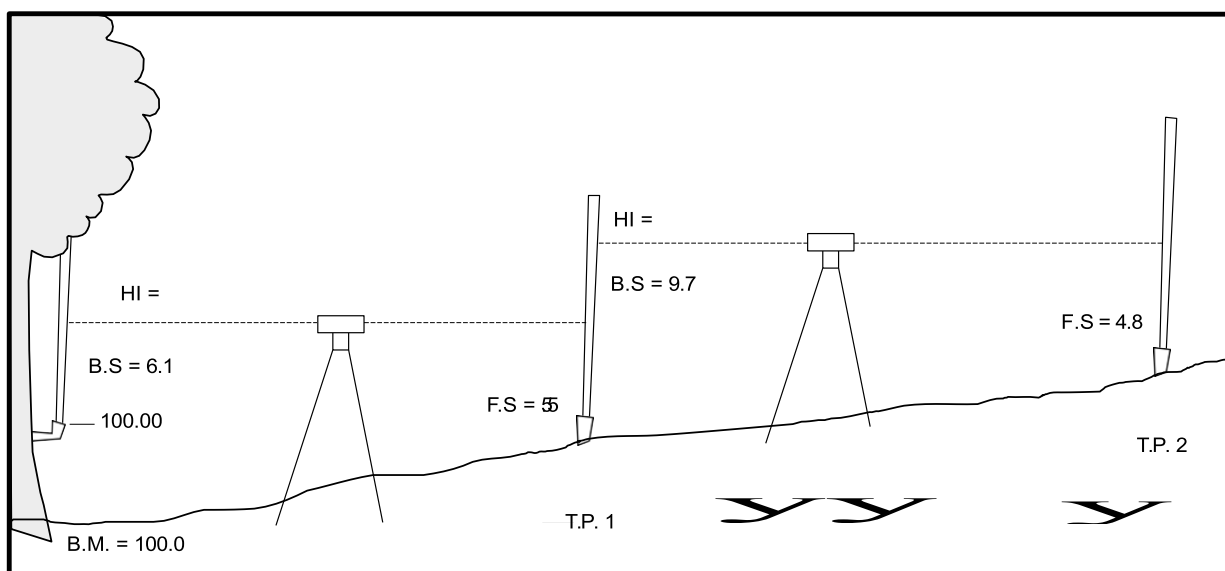

Figure 14
The example in figure 14 starts with a known project benchmark of 100.0 (a spike in a tree). We want to determine the elevation of two other points TP1 and TR2. Surveyors use the term “turning point” (TP) for new points they use when carrying elevations to new locations.